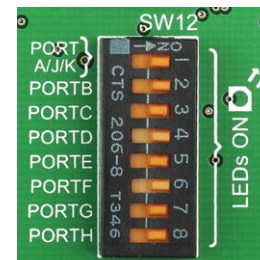

Figure 6-6: SW12.1 through SW12.8 switches are used to enable PORT LEDs
with the current value specified by the manufacturer. The current varies from 0.2mA to 20mA, depending on the type of LED and the manufacturer. The EasyMx PRO™ v7 for Tiva™ C Series board uses low-current LEDs with typical current consumption of 0.2mA or 0.3mA. Board contains 67 LEDs which can be used for visual indication of the logic state on PORT pins. An active LED indicates that a logic high (1) is present on the pin. In order to enable PORT LEDs, it is necessary to enable the corresponding DIP switch on **SW12** (**Figure 6-6**).